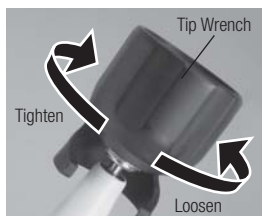

Fig.14
- 2) Tip will insert from the bottom hole of Tip Wrench. Align the four corner of the Tip base area into the four corner of Tip Wrench. And turn it clockwise until it clicks. (Fig. 14)